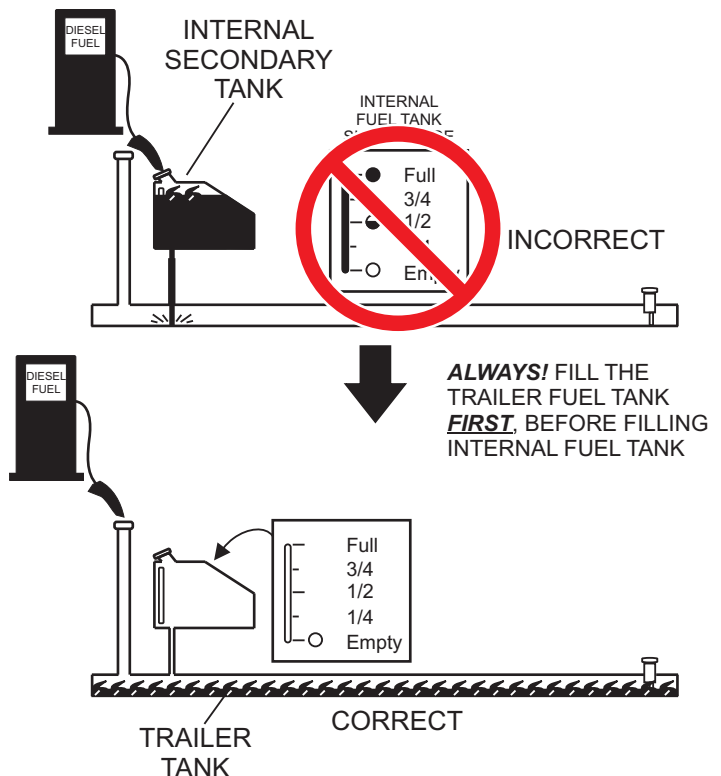

Figure 33. Fuel Tank Filling Order
- Trailer Fuel Tank First** – The trailer fuel tank is the primary fuel tank and holds a larger capacity of fuel. The fuel in the trailer will be filtered and sent to the engine. **ALWAYS** fill trailer fuel tank (Figure 33) first.